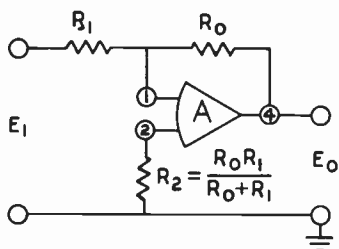

Fig. 51. Drift stabilizing the inverting amplifier.
In most Burr-Brown Operational Amplifiers, input connections are made directly to the bases of a matched pair of input transistors. Thus, variations in base current and emitter to base voltage caused by external changes, i.e. temperature, will tend to cause both input transistors to vary in the same direction. Since the base currents must flow to ground through the external feedback network, drift effects can be minimized by: (1) using the lowest resistance levels consistent with input impedance requirements and output current capability; and (2) balancing the resistances from the two inputs to ground. For the amplifier shown in Fig. 51, this latter consideration is satisfied by connecting a resistor from pin (2) to ground equal to the equivalent resistance from pin (1) to ground.